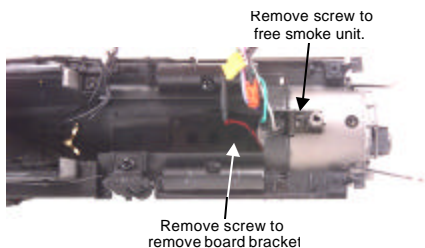

Figure 5a. Accessing the Smoke Unit
3. With the board free of the bracket, use a phillips head screwdriver to remove the bracket from the inside of the boiler shell (see figure 5a).
1. To replace the headlight in this model you will need to follow the disassembly instructions for smoke unit maintenance in figure 5a on pg. 11. Once the smoke unit is removed you can access the wires for the headlight (see figure 8a).